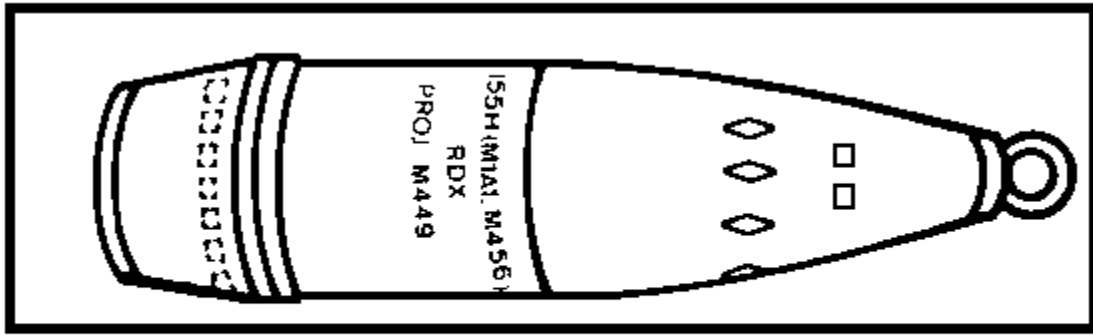

Figure 14. M449-series projectile.
(6) Projectile, 155-mm, improved conventional munitions (ICM), M449 series. These projectiles are used mainly against personnel. They are base-ejecting projectiles that contain 60 M43-series grenade submissiles. The grenades are dispersed in the air when the time fuze (M565 MT or M577 MTSQ) functions. When the grenades impact, submunitions are ejected and explode 4 to 6 feet above the surface, producing fragmentation in a circular pattern (Figure 14).